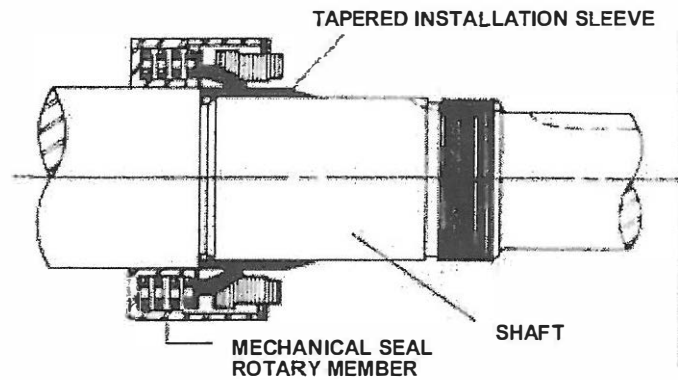

FIGURE 11
3. Place tapered installation sleeve on the shaft. Coat tapered sleeve and inside of the rotary member with a generous quantity of light oil. Grease is not recommended. Start rotary member on shaft and over tapered sleeve. **Refer to Figure 11.**